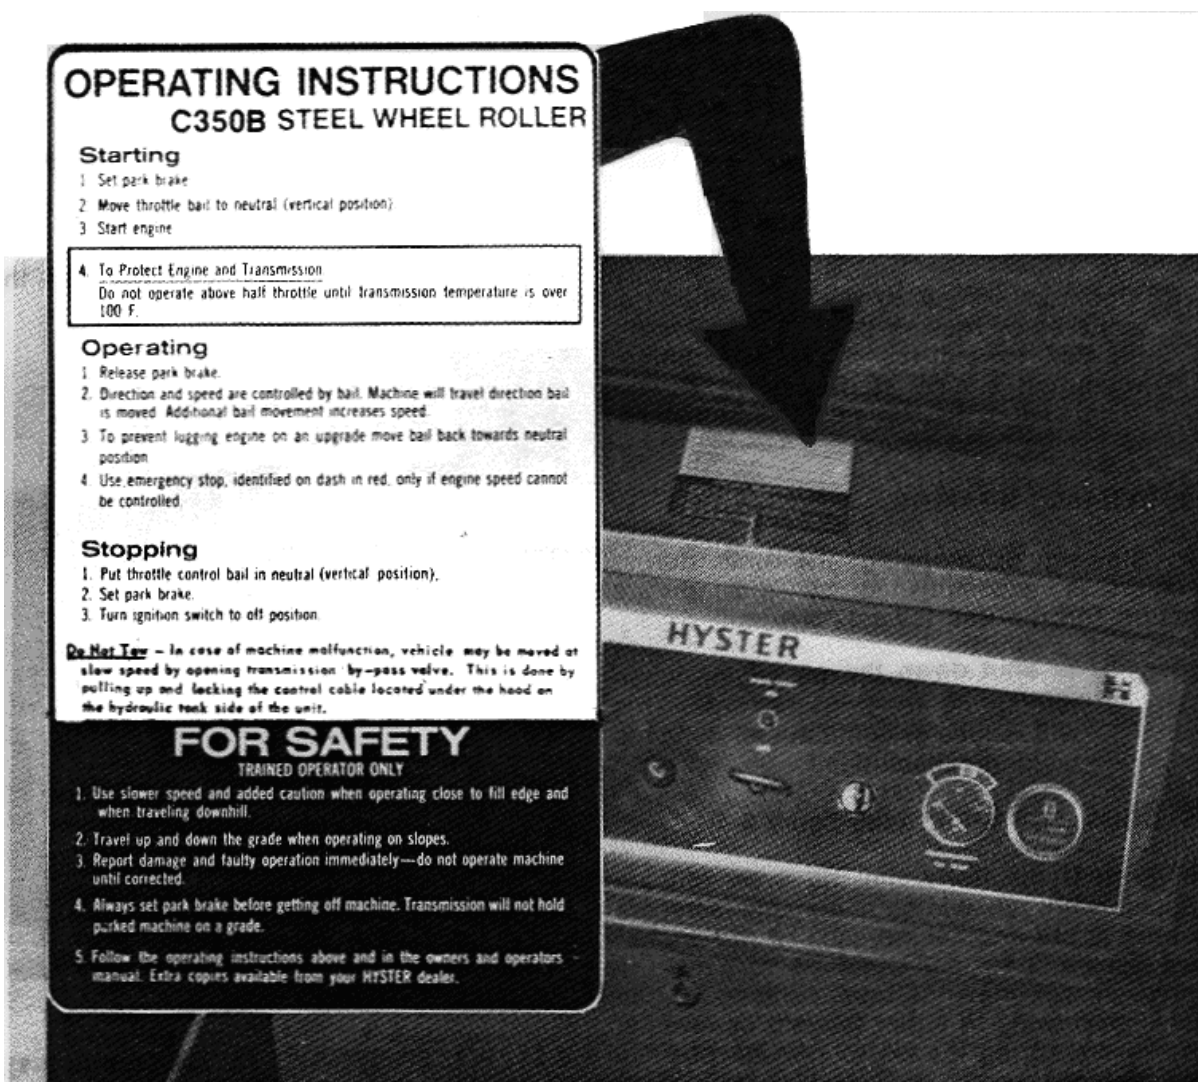

FIGURE 3-3. OPERATING INSTRUCTIONS DECAL.
NOTE: Follow all operating instructions in the order given on the operating instructions decal (see figure 3-3).
g. Make sure the operating decal is attached to the unit as shown in figure 3-3. make sure that the markings on the decal are legible.